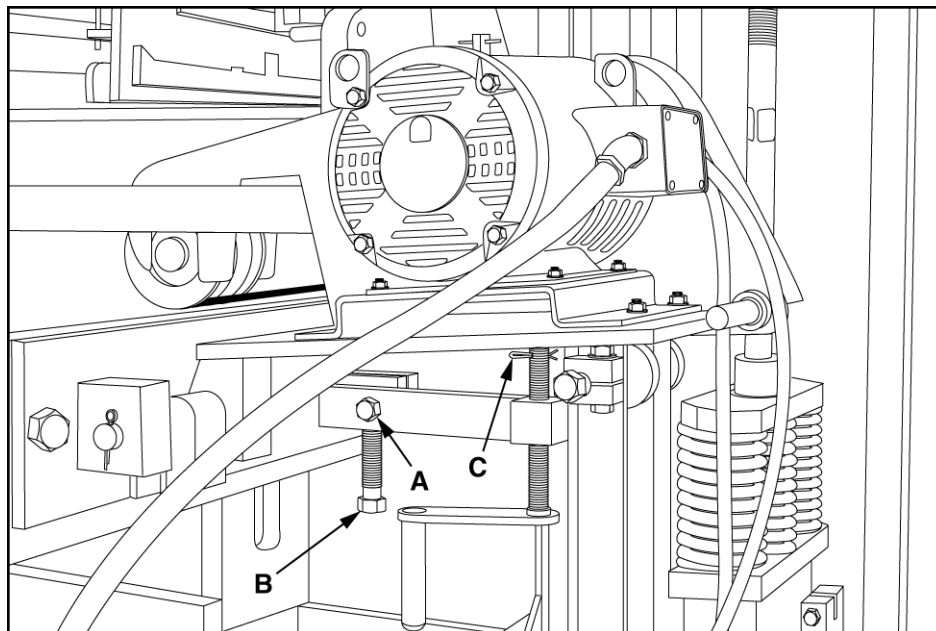

Figure 5.23 VIBRATING MOTOR HEIGHT ADJUSTMENT SCREW (B)
- 5.5.19 Loosen clamp bolt (A) (see figure 5.23).
- 5.5.20 Turn adjusting screw (B) up until it contacts under side of right hand vibrating motor support plate (see figure 5.23). The adjusting screw (B) is located under the right vibrating motor.
- 5.5.24 Recheck 1" dimension. During vibration, if mold works off center to the right, turn adjusting screw (B) up (see figure 5.23) which will move the vibrating motor up. If molds works off center to the left, turn adjusting screw (B) down (see figure 5.23).
NOTE: Make sure base is not on the jacking screw (C) when adjusting vibrating motor height (see figure 5.23).